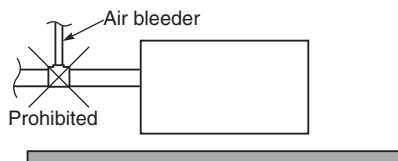

Fig. 3-10
- **Do not install an air bleeder as this may cause water to spray from the drain pipe outlet. (Fig. 3-10)**